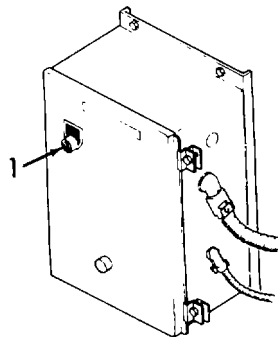

Figure 2-5. Motor Start-Up.
- c. Refer to Figure 2-5. Turn the motor starter box off/auto switch (1) to "auto" to start the motor.